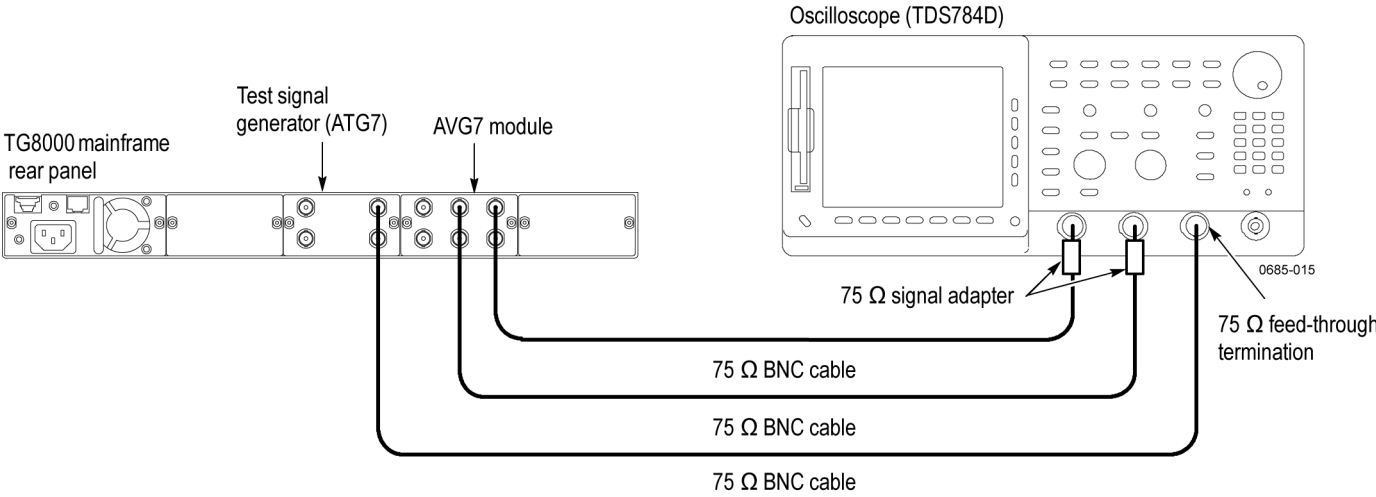

Figure 15: Setup for channel-to-channel delay test
- Use the 75 Ω BNC cable and the 75 Ω signal adapter to connect the upper CH 1 connector on the AVG7 Generator module to the CH 1 input connector on the oscilloscope as shown in the following figure. (See Figure 15.)
- Use the 75 Ω BNC cable and the 75 Ω signal adapter to connect the upper CH 2 connector on the AVG7 Generator module to the CH 2 input connector on the oscilloscope as shown in the following figure. (See Figure 15.)